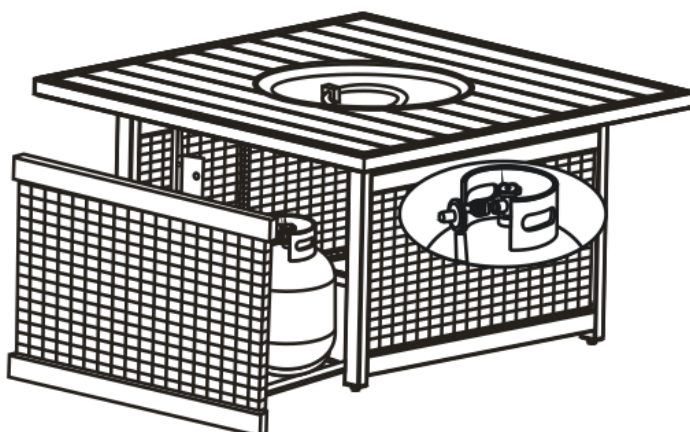

Figure 4
3. Open the tank door, place the tank in the holder and connect the regulator as shown in Figure 4. Turn the handle clock-wise to tighten. Turn the handle counter clock-wise to remove. The hose must point down. Open the control door and check that the valve is turned all the way clockwise to the “OFF” position. Open the tank valve. Apply a solution of soapy water to the tank-regulator connection and to the valve-hose connection to check for leaks. If soap bubbles continue to form, the connection has a leak. If a leak is found, close the tank valve and tighten all connections. **NEVER USE A FLAME TO CHECK FOR LEAKS.**